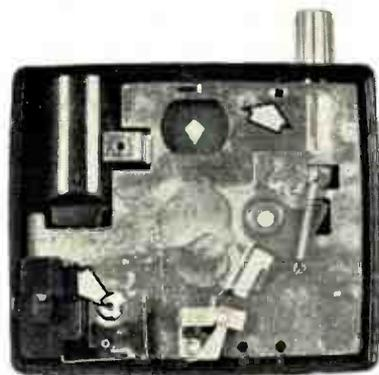

Fig. 8. Back plate removed with arrows indicating screws requiring removal.
- f. Remove the plastic flash-bulb ejector, and remove the two small Phillips-head screws which hold the shutter plate (Fig. 8).